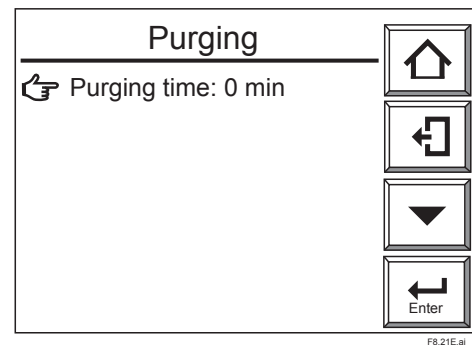

Figure 8.23 Purging Display
- (4) Select "Purging". The purging time setting display appears, as shown in Figure 8.23.
- (5) Point to the "Purging time" and press the [Enter] key. Then the display for selecting purging time appears.
- (6) Enter the desired numeric value from the numeric-data entry display.